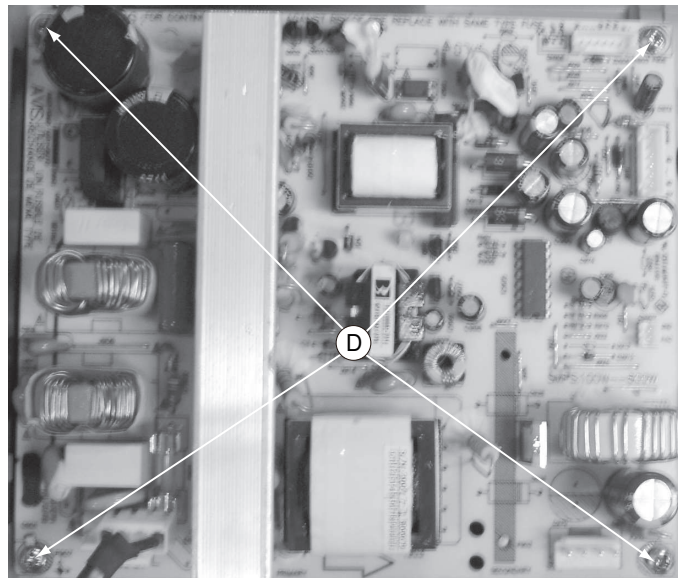

Figure 7
- 1) Loosen 4 screws “D” on the top of power board as shown in figure 7.